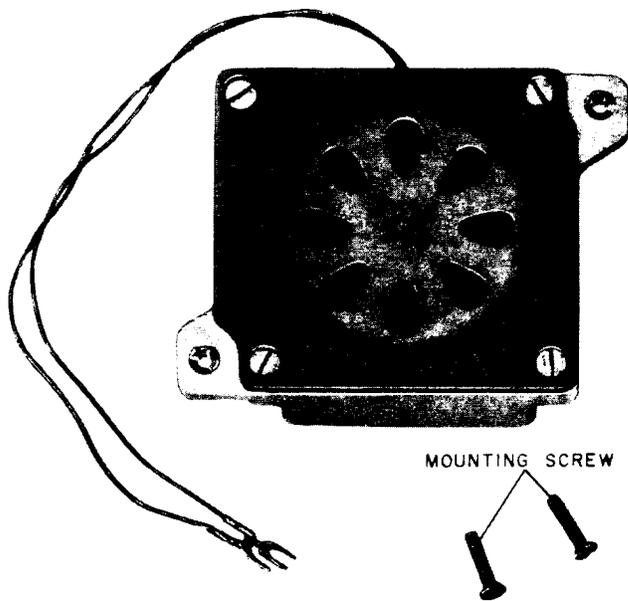

Fig. 6—761A Loudspeaker
2.15 The **761A** loudspeaker (Fig. 6) is 3-3/32 inches long, 2-1/4 inches wide, and 1-1/16 inches high and is intended for panel mounting similar to 751-type panel telephone sets. It can be used with 3A speakerphone or 1A home interphone systems. Two spade-tipped leads provide connections to the associated circuit components and the housing provides two tapped mounting holes. Mounting screws are furnished.